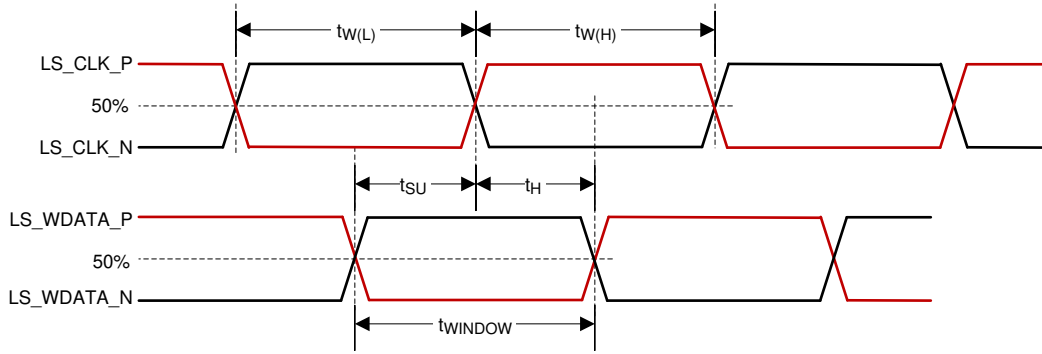

Figure 5-5. LSIF Timing Requirements
- (3) See Figure 5-5 for pulse duration high and low time for LSIF.
- (4) See Figure 5-5 for setup and hold time for LSIF.